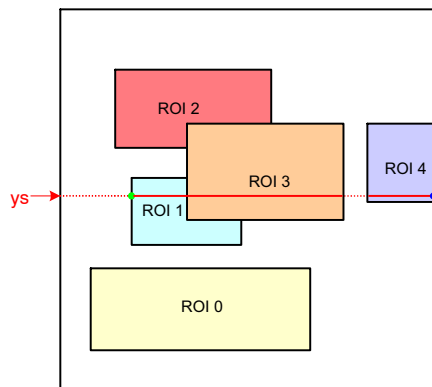

Figure 28. Scanning the Image Array with Five Windows
Figure 28 illustrates a practical example of a configuration with five windows. The current position of the read pointer ( $ys$ ) is indicated by a red line crossing the image array. For this position of the read pointer, three windows need to be read out. The initial start position for the x-kernel pointer is the x-start configuration of ROI1. Kernels are scanned up to the ROI3 x-end position. From there, the x-pointer jumps to the next window, which is ROI4 in this illustration. When reaching ROI4's x-end position, the read pointer is incremented to the next line and  $xs$  is reinitialized to the starting position of ROI1.
- The read pointer is not necessarily incremented by one, but depending on the configuration, it can jump in y-direction. In Figure 28, this is the case when reaching the end of ROI0 where the read pointer jumps to the y-start position of ROI1